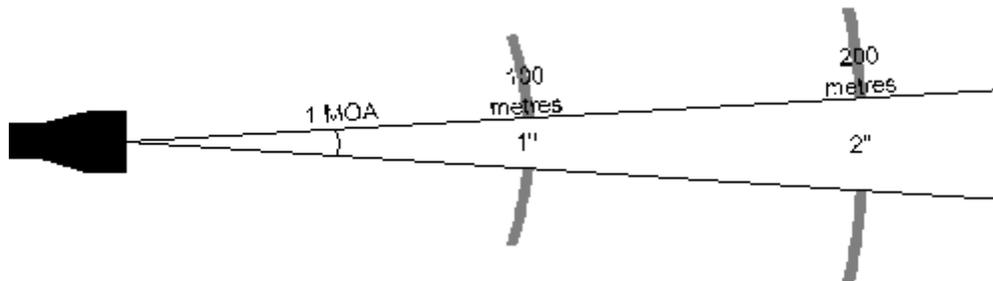

Figure 1
Modern riflescopes have windage / elevation controls that move the target image in relation to the graticule in order to allow you to make the bullet impact point coincide with the centre of the graticule. Each click of the windage / elevation control shifts the **point of impact (PI)** in the direction indicated by the arrow on the control by 1/4 **minute of arc (MOA)**. In a circle there are 360 degrees, each of which is divided into 60 minutes of arc, thus there are 21600 MOA in a circle. Using the formula  $2\pi \times r$  to calculate the circumference of a circle, it can be determined that a circle with a radius of 100 metres has a circumference of 628.3 metres. Divide 628.3 by 21600 to determine the number of millimetres per MOA and you get 29mm, so for each four clicks of adjustment on the windage / elevation control, the PI will shift by 1 MOA which equals 29mm at 100m. Because the PI adjustment is measured in angles, the amount of movement on the target will increase proportionally as the distance to the target increases (see figure 1). In the following table, each click has been rounded down to 7mm for simplicity.
Before tightening the rings, be sure to set the correct eye relief for your scope (*see next section*) and align the scope so that the graticule is squarely aligned to the rifle (*see Figure 1*).